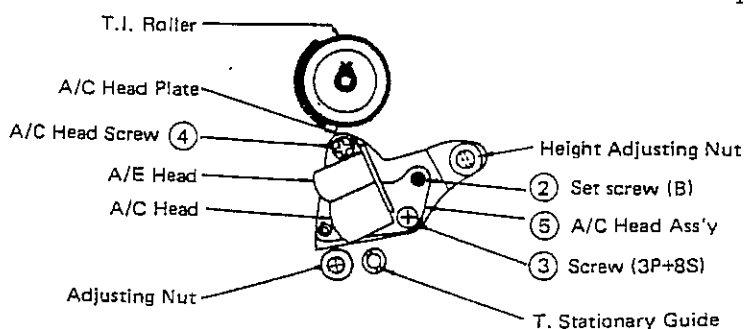

Figure 23
- 1) If an abnormality can be seen in the travel mode, carry out the following adjustments with reference to figures 23 and 25.
4. If adjustment is needed, adjust by means of the set-screws (B in figure 23). Turn screws B slightly, N.B. Do not move the T. stationary guide
- 2) 1. Adjust the Audio Head tilt angle with the height adjustment jig and setscrew B as shown in Fig. 23.